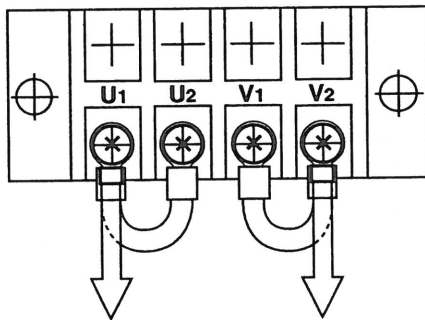

Figure 26: Output Terminal Board, 120 Volt Output
- Connect U1 to U2 and V1 to V2 on the output terminal board (Figure 26). Connect 120 volt output leads to terminals U1 and V2.